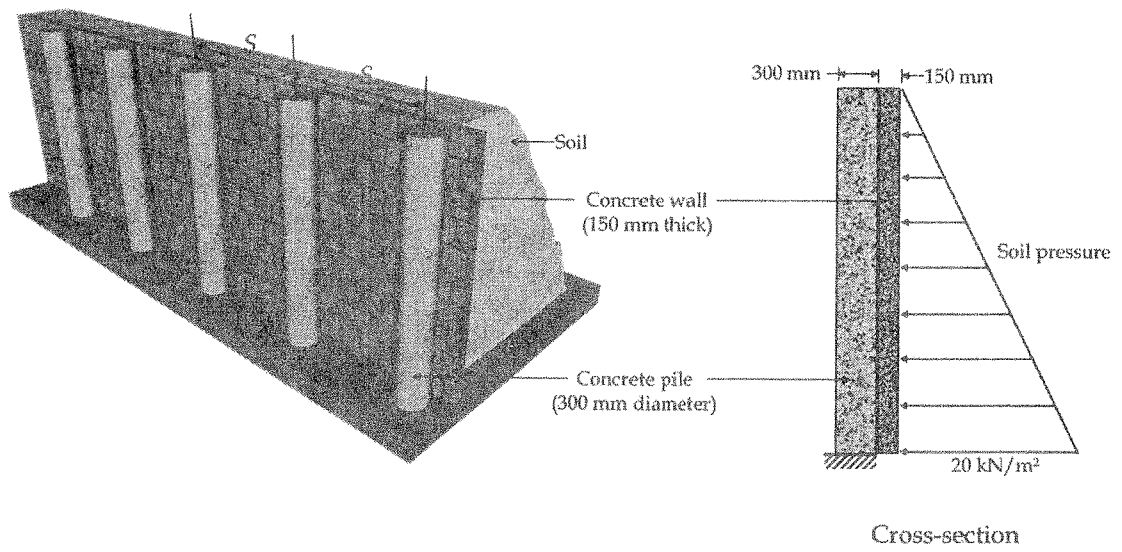

Figure Q1
- Q1. A concrete retaining wall of 2 m high and 150 mm thick, which is supported by vertical concrete piles of 300 mm diameter, is shown in Figure Q1. Concrete piles are fixed at ground level. The lateral earth pressure is  $20 \text{ kN/m}^2$  at the bottom of the wall.